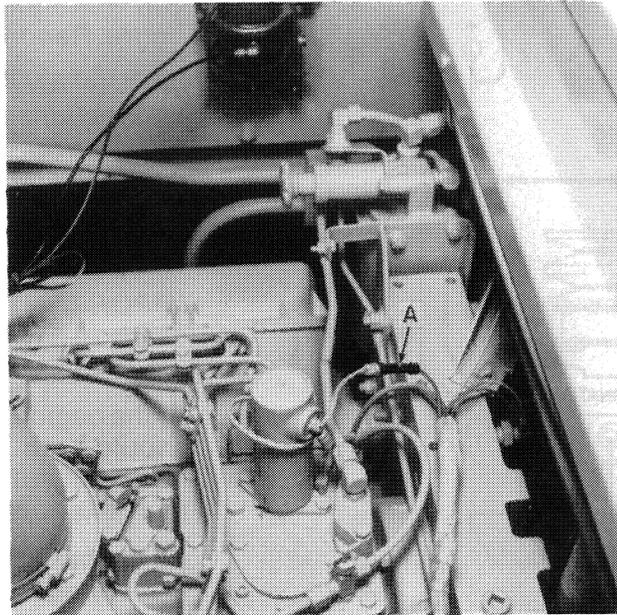

FIGURE 1
- a. Disconnect the power wire to the fuel shut-off solenoid on top of the engine. See A, Figure 1.